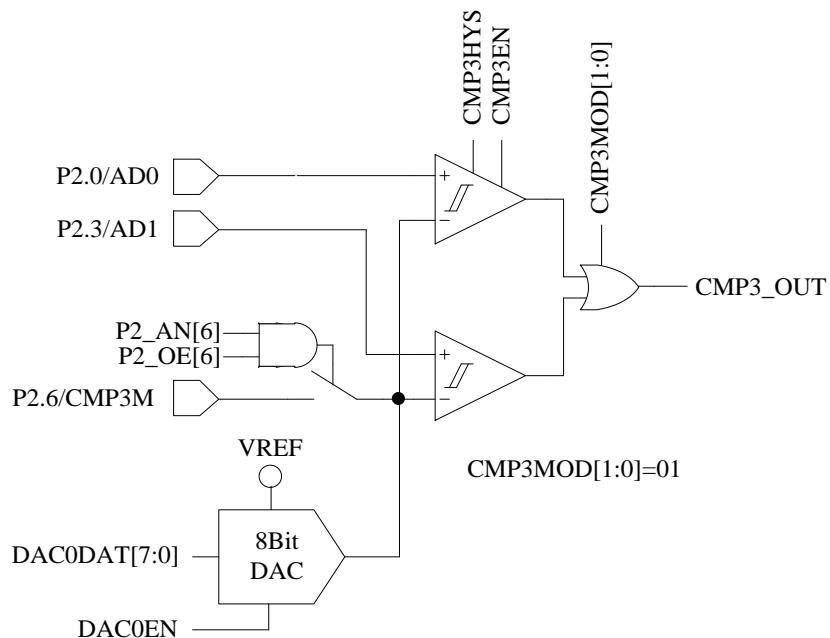

Figure 30-3 Dual-comparator Input Mode (CMP\_CR1[CMP3MOD] = 01)
- When **CMP\_CR1[CMP3MOD]** = 01, CMP3 works in dual-comparator input mode. The connection of input and output pins are shown in Figure 30-3.